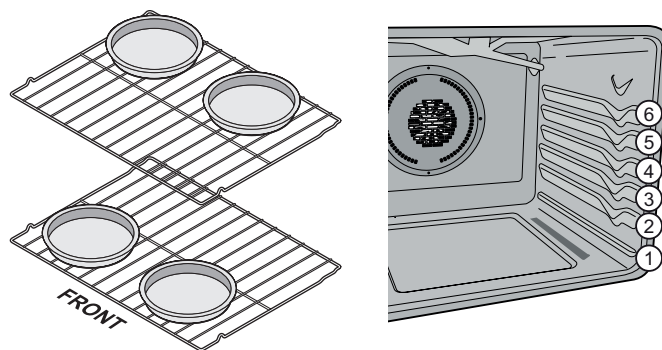

Figure 11: Rack positions; pan positions for two rack baking.
- For best results when baking cakes using two oven racks, place racks in positions 3 and 5 (Figure 11).